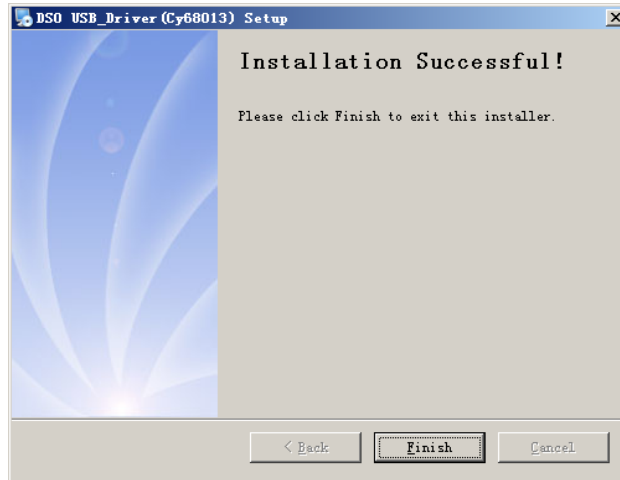

Figure 1-11
Step 3 : When automatic installation is complete, as indicated by the pop-up box in Figure 1-11, click **Finish** in Figure 1-11. Your USB driver is now successfully installed on your computer and ready for use.